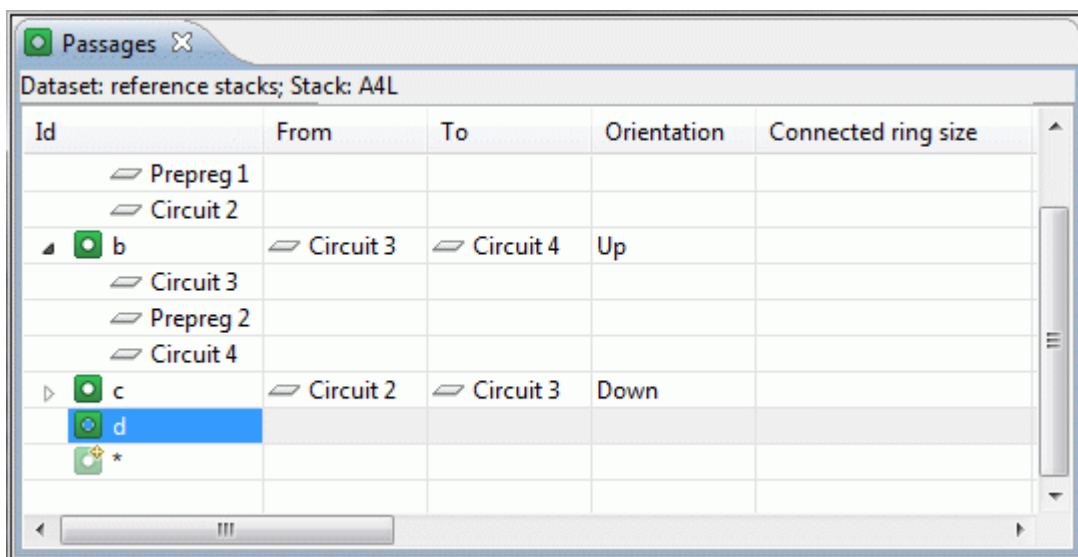

Figure 2. Created passage element in the tree table
- Press **Enter** key. A new record appears in the **Passages** view tree table (see Figure 2).